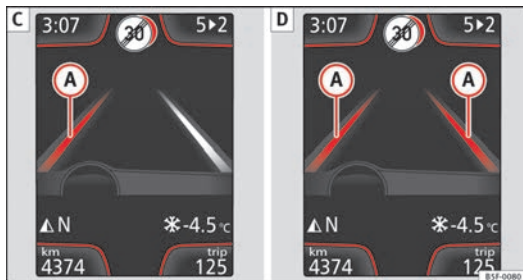

Fig. 98 On the instrument panel display: Indication on the Lane Assist system display (example 2)
- The system is operational, a yellow line (A) indicates that there was a risk of involuntarily crossing the lane line and that the steering is being adjusted to correct the angle ⇒ Fig. 98 [C].
- Two yellow lines (A) light up simultaneously when both lane lines are recognised and the Lane Assist function is active ⇒ Fig. 98 [D]. ▶